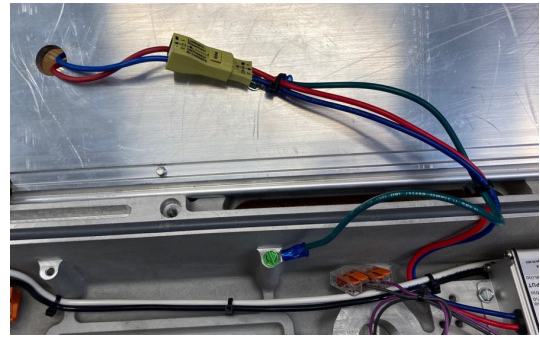

Figure 3. MLLA2 LED light engine wire routing
5. Locate and remove wire tie used to secure LED light engine input wiring (see Figure 3). Use care in removing wire tie so damage is not done to any wires
6. Un-plug the LED light engine fitting input socket from the LED driver output plug (see Figure 3).